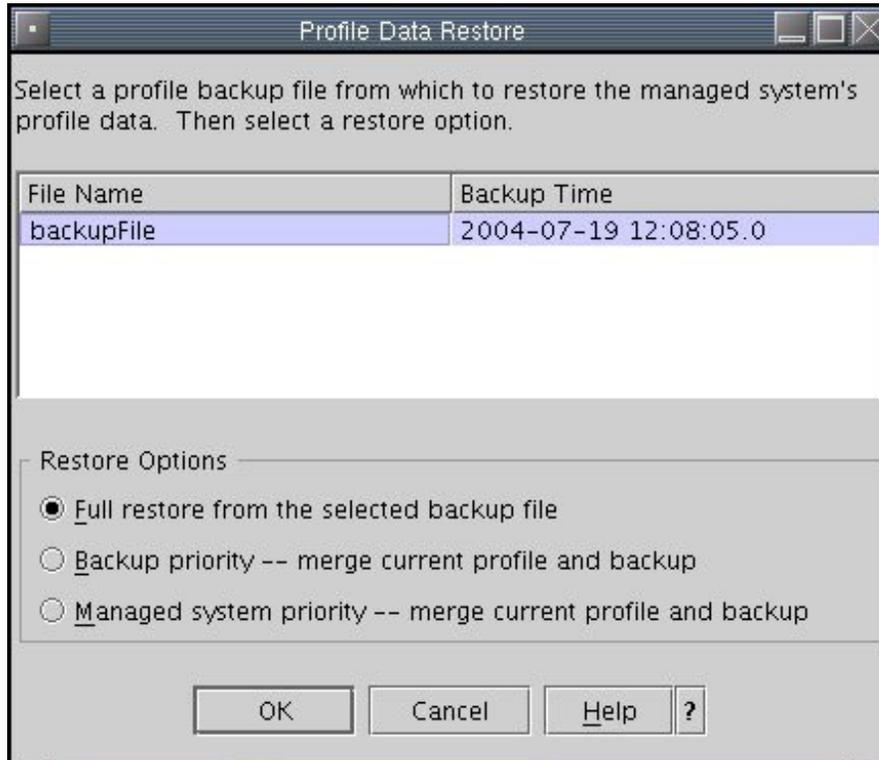

Figure 3-31 Restore profile data
- Restore the profile data file if it has been lost or damaged (see Figure 3-31):